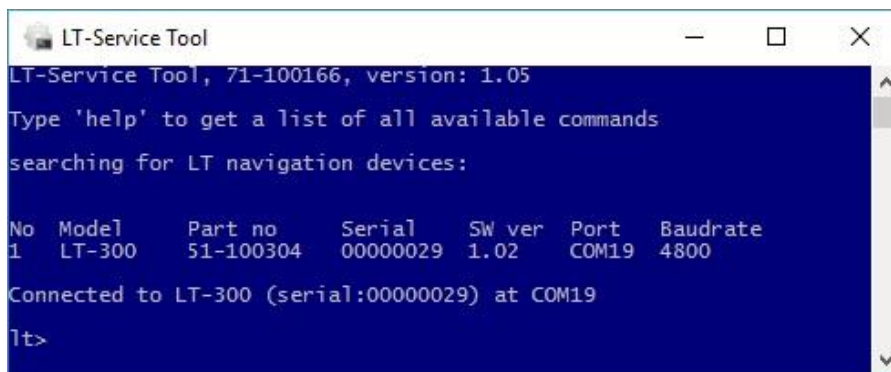

FIGURE 43: THE LT-SERVICE TOOL WILL AUTOMATICALLY SEARCH FOR LT-NAVIGATION DEVICES, WHICH ARE CONNECTED TO THE PC. A MANUAL CONNECTION MODE IS ALSO AVAILABLE.
- Step 2: The LT-Service Tool will automatically search all COM ports on the PC to identify potential LT-Navigation devices connected to the PC. Devices found, will be shown in a list, as illustrated in Figure 43.